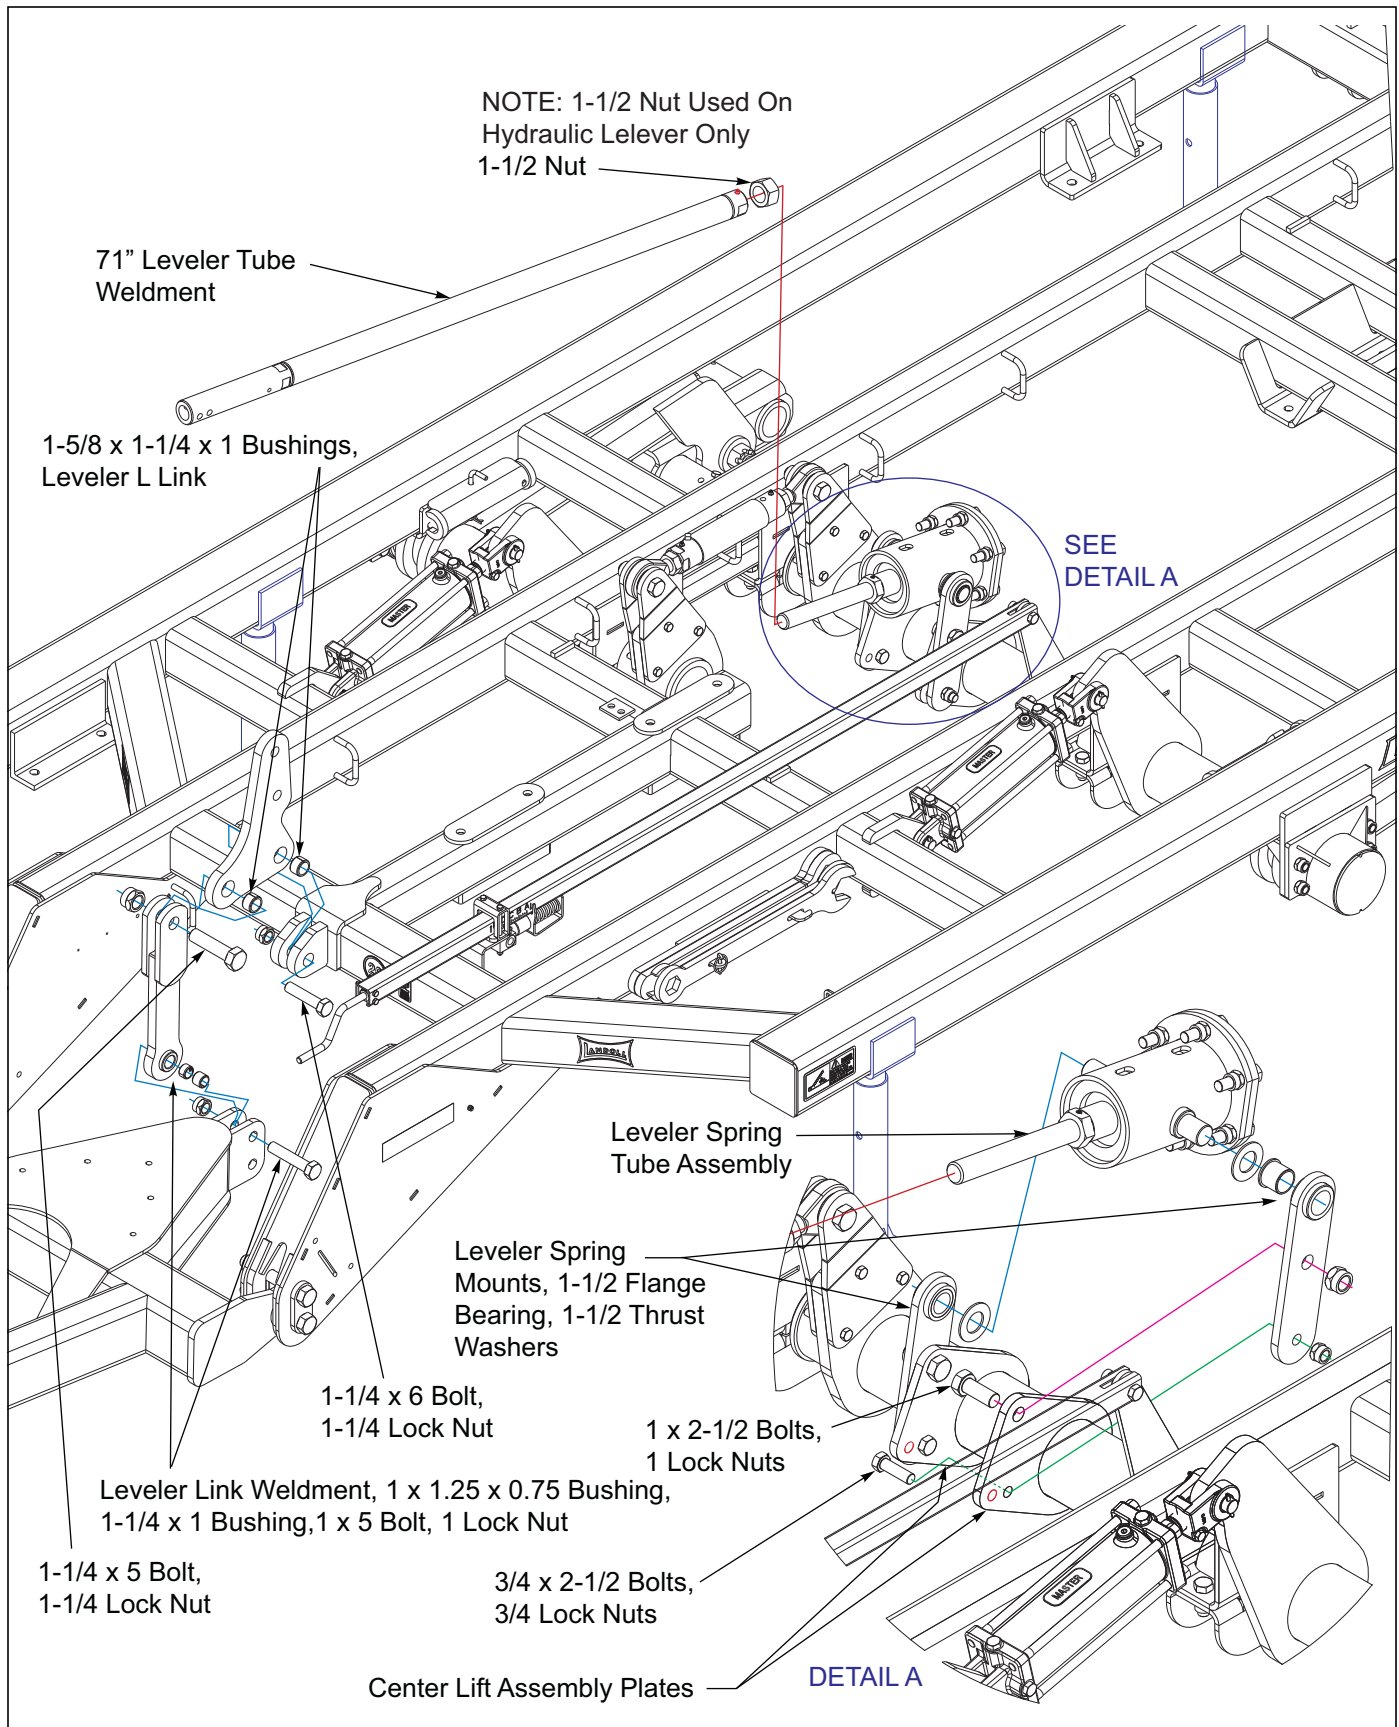

Figure 3-3: Leveler Assembly Installation (After 01-01-2024)
1. Install (2) 1-5/8 x 1-1/4 x 1 bushings in the leveler L link **See Figure 3-3**.
1. Using the manual leveler, screw the 71" leveler tube onto the leveler screw assembly See Figure 3-3. Initially leave approximately 1" of threads visible, further adjustment may be required. Rotate the tube so that the zerk hole in the threaded end is pointing upward.